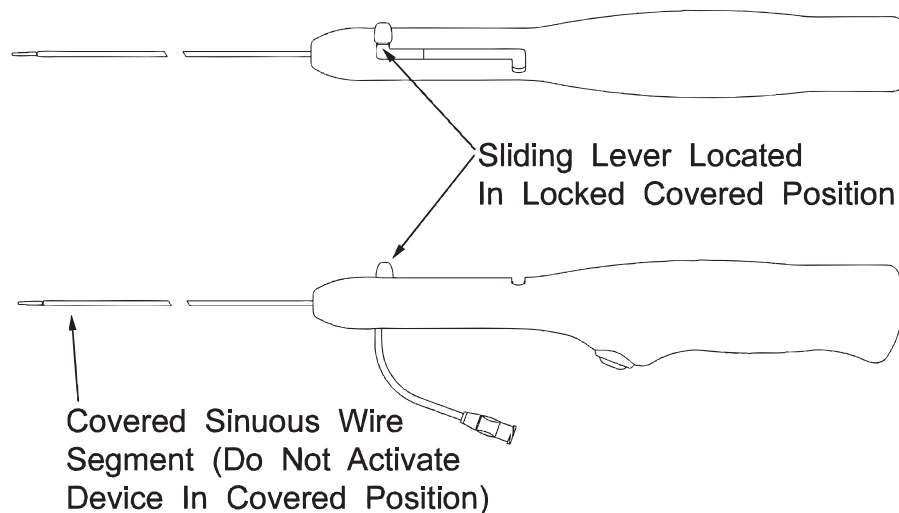

Figure 3
9. Place the device in the covered position by pushing the sliding lever to the distal position and rotating sliding lever to lock in covered position (refer to Figure 3). When in the covered position, only the flexible tip of the sinuous wire should extend from the catheter. The device should not be activated in the covered position.